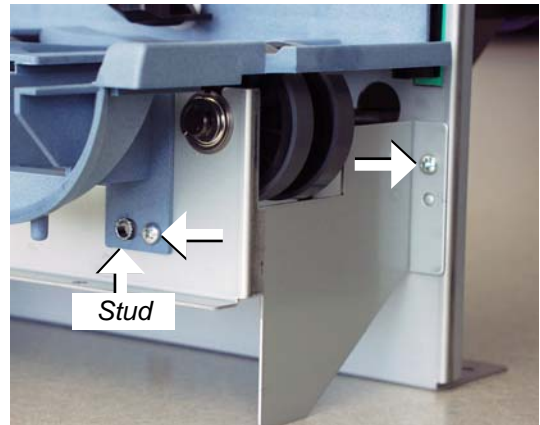

Figure 5-112 Screw Removal, Right
**NOTE:** Roller plate is aligned to moistener deck by two studs, one of which is shown in Figure 5-112. Use care when separating the roller plate from moistener deck.